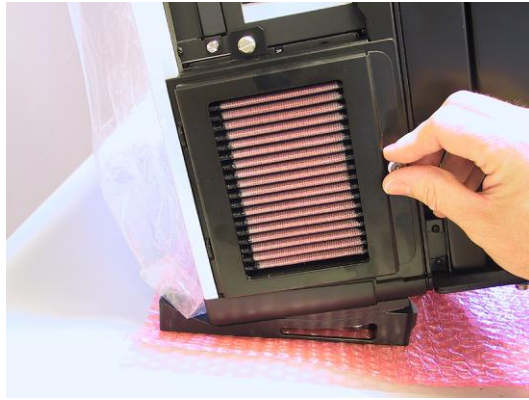

Figure B-1
- 1) Observe the two filters on the left-hand and right-hand sides of the main chassis (Figures B-1 and B-2, respectively). These filters are located over the air intake vents (any uncovered fans act as exhausts).